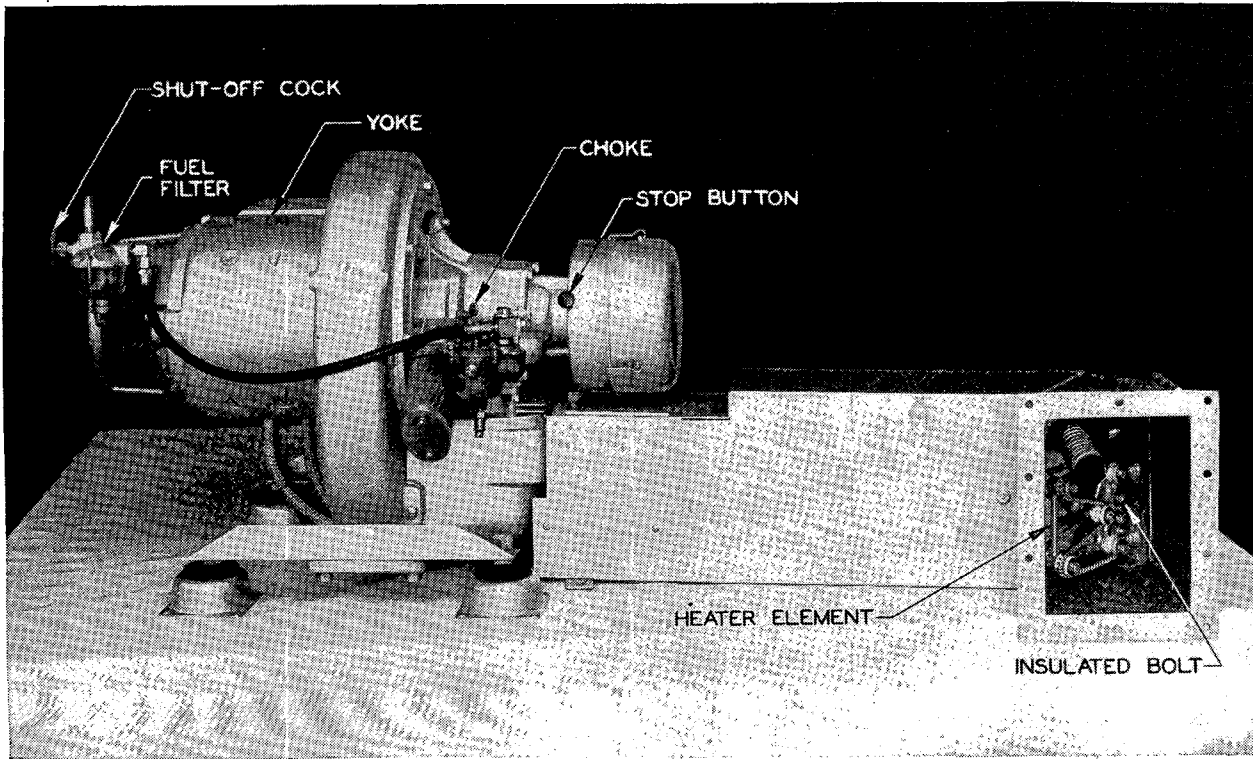

FIGURE 2.—Auxiliary generator model HRH-28—left side.
(2) Open shut-off cock on fuel filter beneath the fuel tank (fig 2). Full counterclockwise direction is open.
b. Cold weather starting—cold engine (below 50° F.).—(1) Close the carburetor choke (fig. 2). (The choke is open when the lever is against the stop pin.)
*e. To stop engine.—*Press the red stop button (fig. 2), and hold firmly until the engine stops. Close the fuel line shut-off cock beneath the fuel tank (fig. 2) (closed when in full clockwise position).
- (1) Fill tank with fuel and oil mixture.
- (2) Open shut-off cock.
- (3) Choke—if required.
- (4) Depress starting button or start manually.
- (5) Press red stop button for stopping.
- (6) Close fuel shut-off cock.